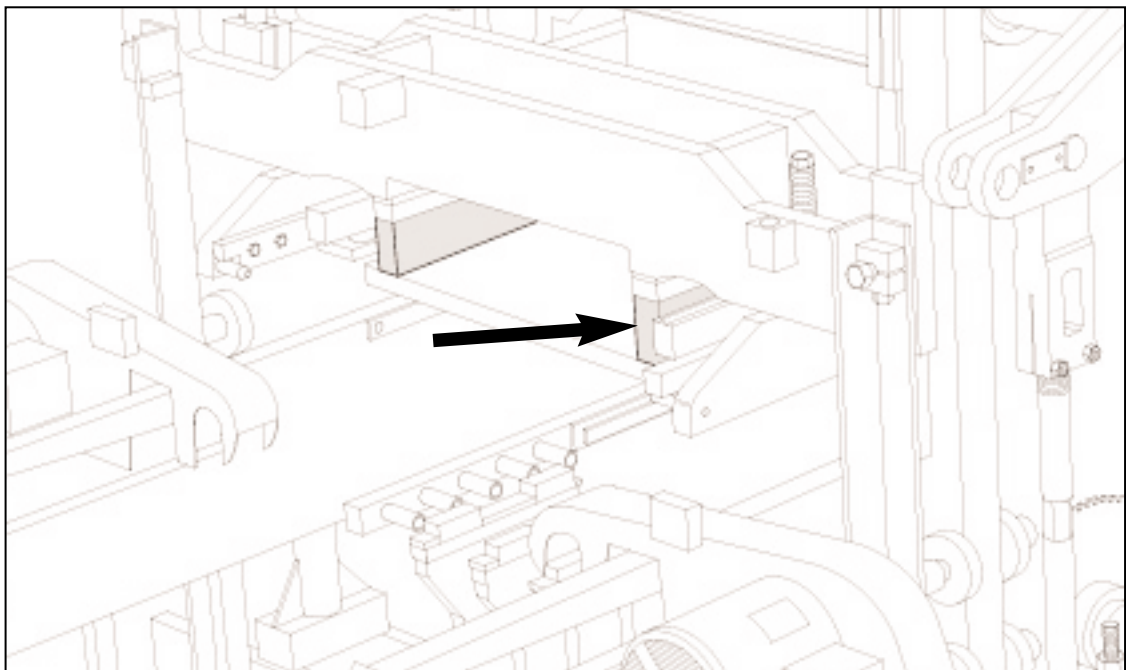

Figure 18.36 127mm [5.0"] BLOCKING UNDER STRIPPER HEAD FRAME.
18.2.12 The ULTRAPAC II is now ready for the installation of the mold assembly. Follow the directions for installing an attachment in section 5 of this manual. When installing the stripper head, use **381mm [15.0"]** long bolts **#087160** and insert **127mm [5.0]** of blocking in addition to the **38mm [1 1/2"]** blocks already affixed to the stripper head frame (figure 18.36).